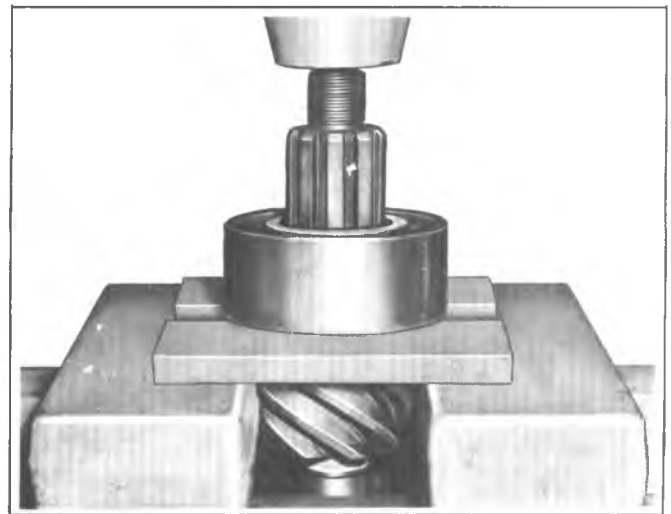

Fig. 3G—Drive Pinion Front Bearing Removal
6. Position drive pinion in an arbor press so that the bearing is supported by two pieces of flat steel stock as shown in figure 3G. Place flat stock parallel to each other and against pinion so as to pick up a large area of bearing outer race. Press pinion from bearing making sure pinion is supported to prevent damage when removed from bearing.